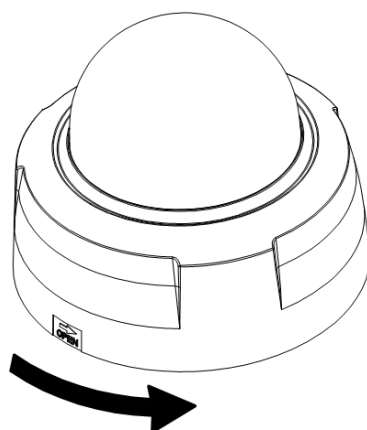

Figure 2- 4 General installation 2
- b) For non vandal-proof series, rotate the dome camera enclosure counterclockwise as in Figure 2- 4 until you can remove it.